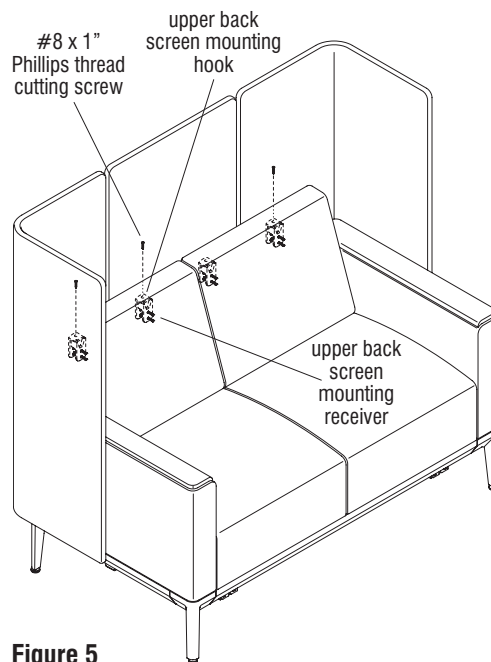

Figure 5
1. Loosely secure the remaining upper back screen mounting hooks on the corner and center screen (if present) to the upper screen mounting receivers using a #8 x 1" Phillips thread cutting screw per hook. Do not tighten screws fully until instructed to at a later step (Figure 5 & Detail H).